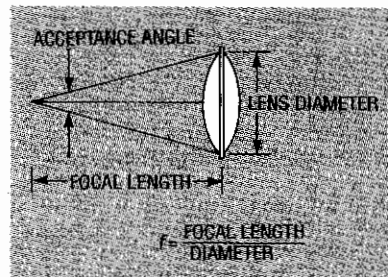

FIG. 3—THE *f* NUMBER or lens speed is the ratio of the focal length to the diameter. You can think of this as an optical acceptance angle.
**f number or lens speed.** In lenses, the ratio of the focal length to the diameter is called the "f" number ( $f = f/d$ ). The smaller the number, the "faster" and more expensive the lens. It is convenient to think of this as an optical "acceptance" angle (see Fig. 3). This will be important in choosing the transmitter's collimating lens. In cameras, where the focal length is fixed, a lens with a larger diameter than another lens has a smaller "f" number, and is said to be faster. That's because the larger lens gathers more light and the shutter can be set to a faster speed than the smaller lens. Table 1 shows f numbers vs. acceptance angles.